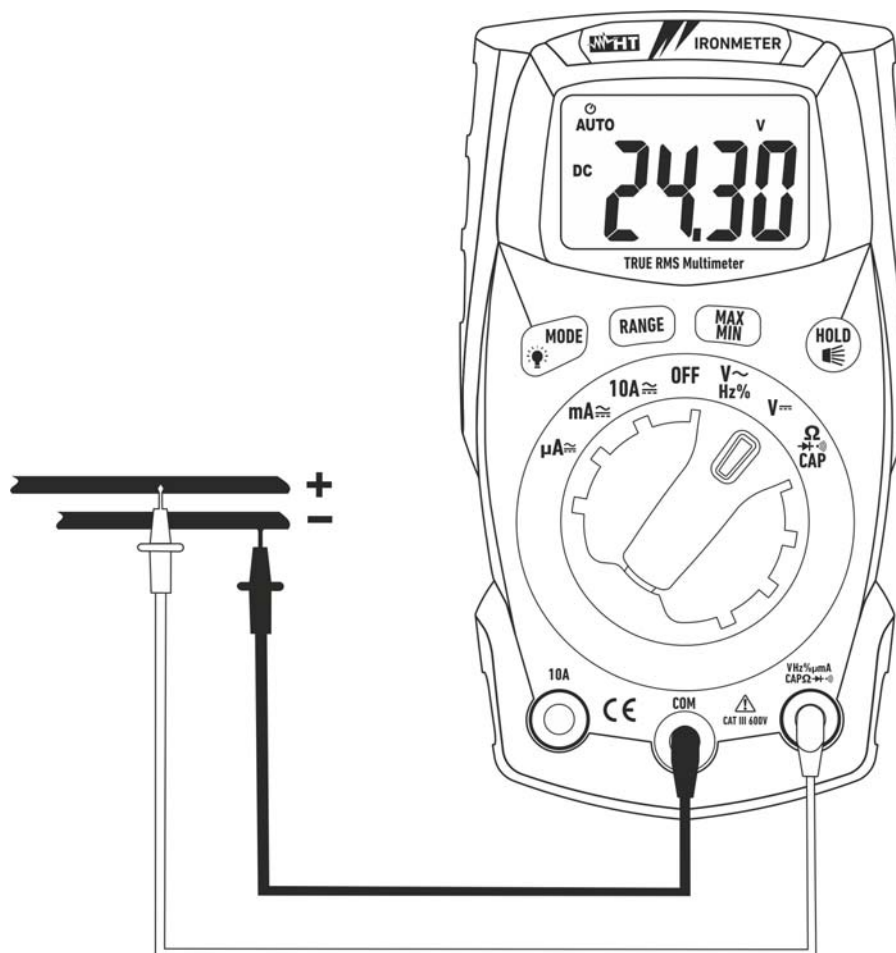

Fig. 3: Use of the instrument for DC voltage measurement
3. Position the red lead and the black lead respectively in the spots with positive and negative potential of the circuit to be measured (see Fig. 3). The display shows the value of voltage.
5. When symbol "**-**" appears on the instrument's display, it means that voltage has the opposite direction with respect to the connection in Fig. 3.